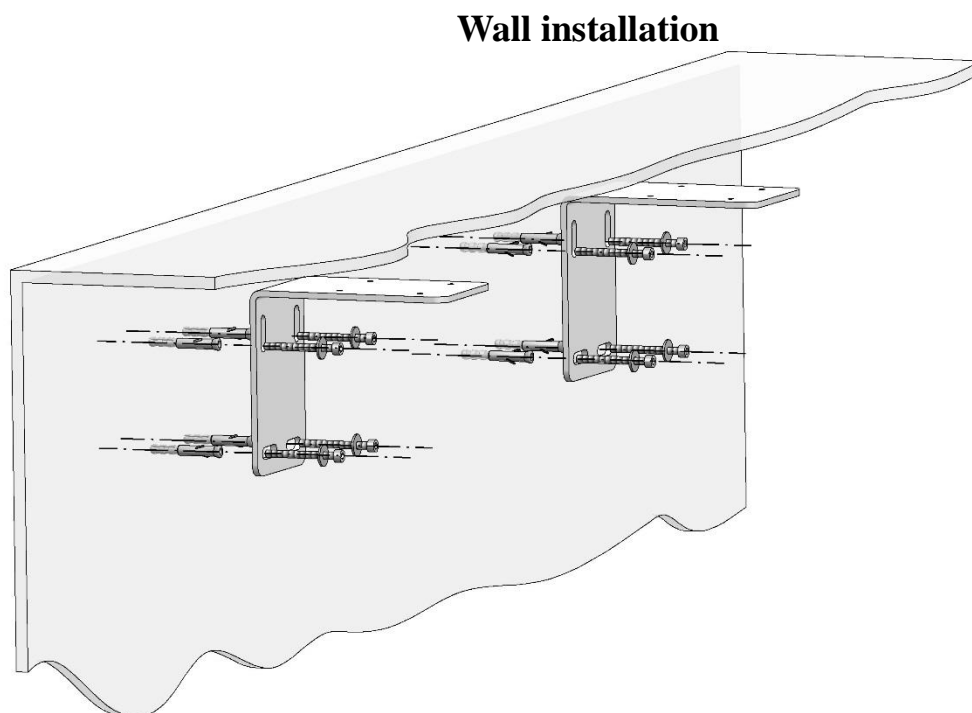
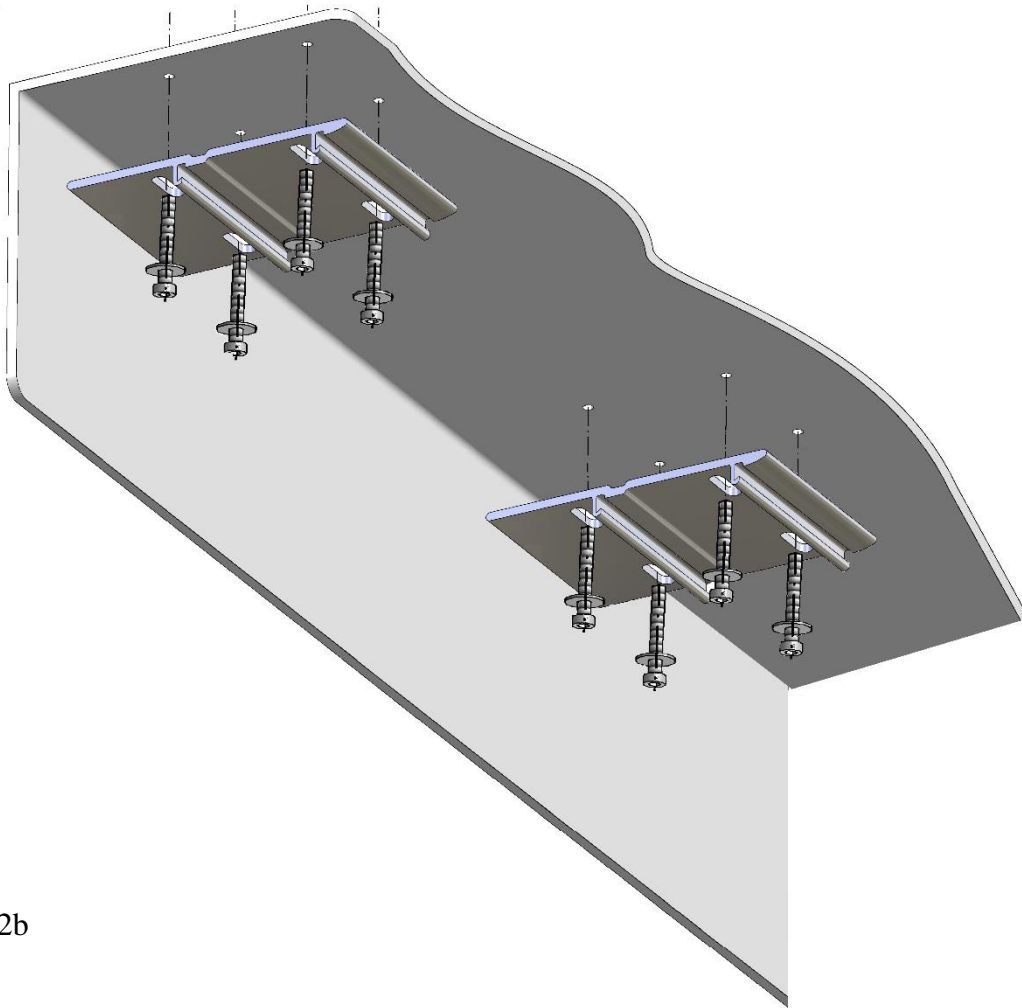

Figure 2a
Figure 2b
2. Depending on the installation option, fit the wall brackets using the Ø14 rawlplugs provided in the kit (Figure 2a) or the ceiling brackets using the Ø10 rawlplugs (Figure 2b).